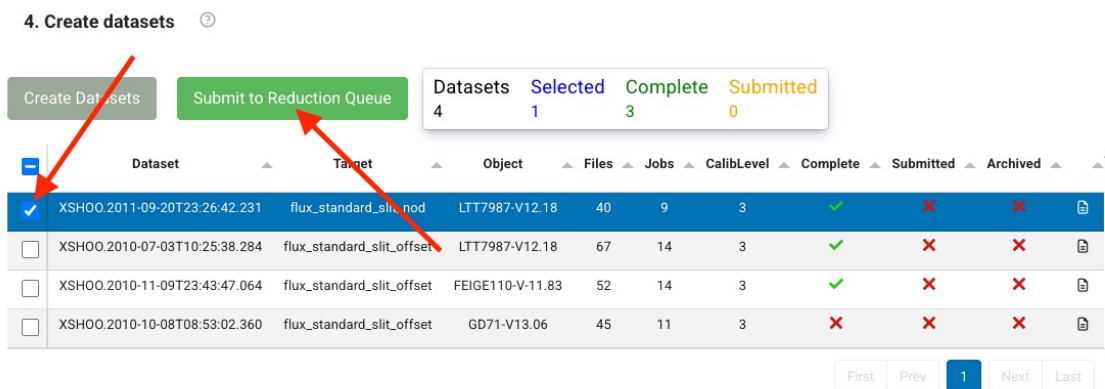

Figure 8: How to send the selected datasets to the Reduction Queue for processing.
5. Choose the datasets that should be processed (Figure 8)